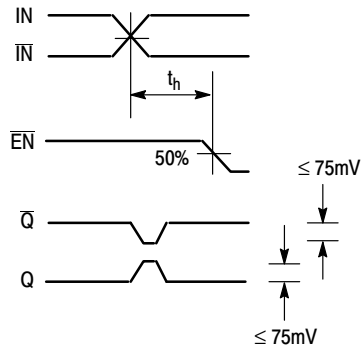

Figure 4. Hold Time
6. The hold time is the minimum time that EN must remain asserted after a negative going IN or a positive going $\bar{IN}$ to prevent an output response greater than $\pm 75\text{ mV}$ to that IN/ $\bar{IN}$ transition (Figure 4).
- The hold time is the minimum time that $\overline{\text{EN}}$ must remain asserted after a negative going IN or a positive going $\overline{\text{IN}}$ to prevent an output response greater than $\pm 75\text{ mV}$ to that $\text{IN}/\overline{\text{IN}}$ transition (Figure 4).